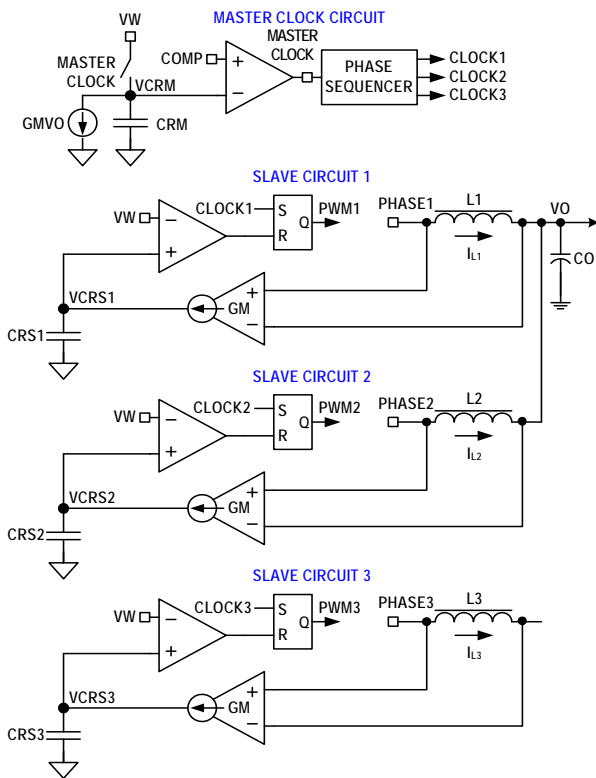
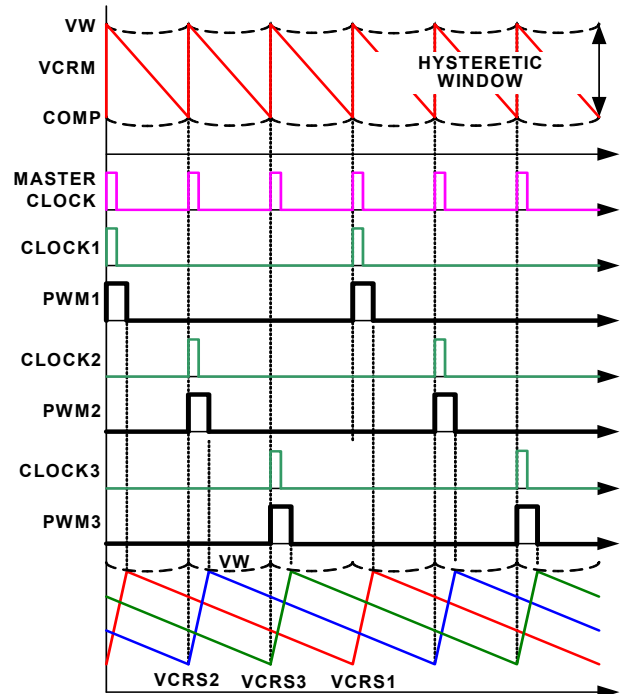

FIGURE 9. R3™ MODULATOR CIRCUIT
FIGURE 10. R3™ MODULATOR OPERATION PRINCIPLES IN STEADY STATE
The ISL62773A is a multiphase regulator implementing two voltage regulators, CORE VR and Northbridge (NB) VR, on one chip controlled by AMD's™ SVI2™ protocol. The CORE VR can be programmed for 1-, 2- or 3-phase operation. The Northbridge VR can be configured for 1- or 2-phase operation. Both regulators use the Intersil patented R3™ (Robust Ripple Regulator) Modulator. The R3™ Modulator combines the best features of fixed frequency PWM and hysteretic PWM while eliminating many of their shortcomings. Figure 9 conceptually shows the multiphase R3™ Modulator circuit, and Figure 10 shows the operation principles.